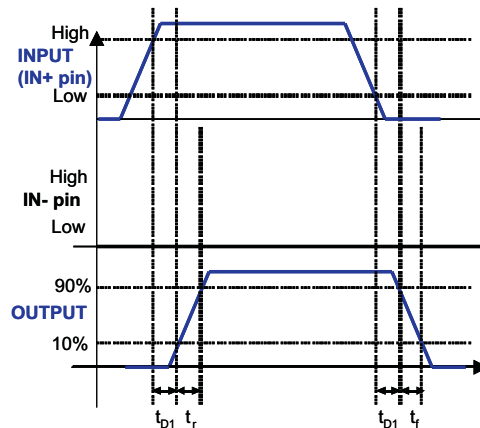
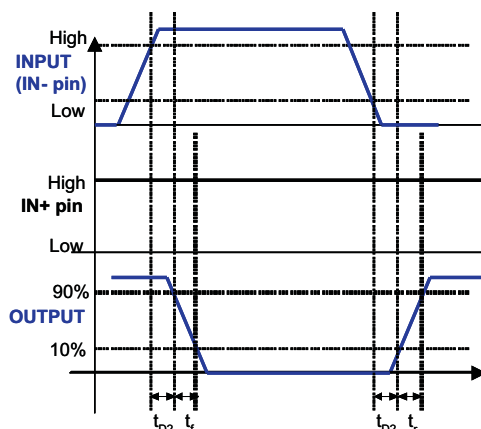
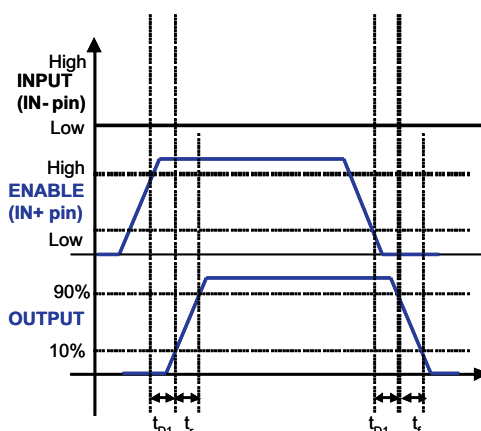

**Figure 1. Non-Inverting Configuration
Figure 2. Inverting Configuration
Figure 3. Enable and Disable Function Using IN+ Pin
(3) See timing diagrams in Figure 1, Figure 2, Figure 3 and Figure 4.